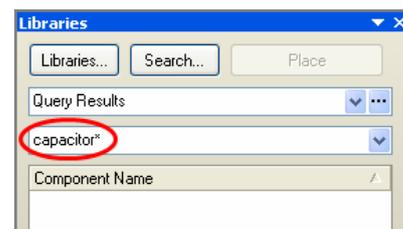

Figure 12. Ensure that the filter field is clear during searching.
**Note:** When you are searching libraries, check that the Filter field at the top of the Libraries panel has nothing in it. If there is any thing other than a \*, then the search results will be further filtered, as shown in Figure 12.